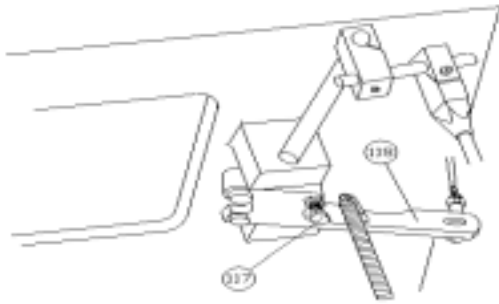

FIG.45
**Attention:** The maximum available lift is fixed at the time of assembly. It is therefore not advisable to tamper with the adjustment screws (116 and 117). FIG. 45.